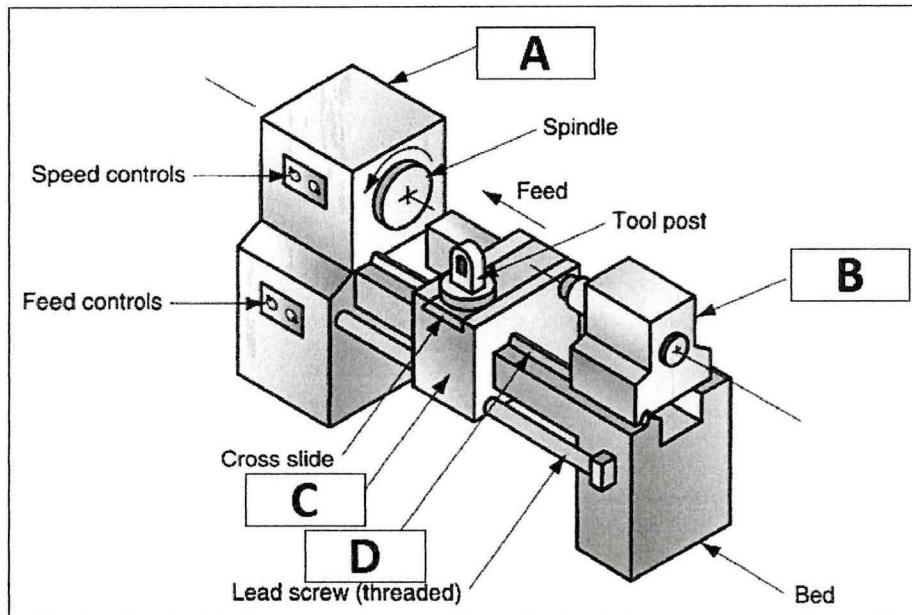

Figure Q2: Schematic diagram of an engine lathe.
- Q2** (a) Explain **TWO (2)** differences between peripheral milling and face milling. (4 marks)
- (b) Explain the function of component A, B, C, and D as shown in **Figure Q2**.